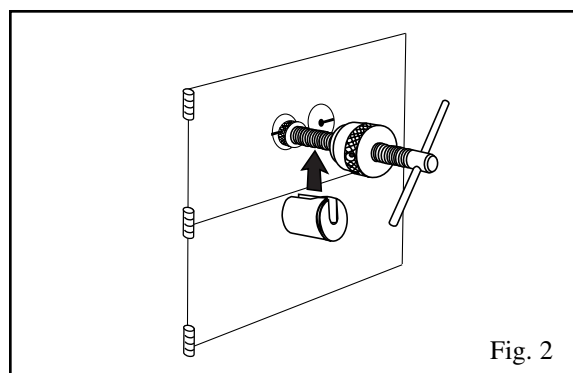

Fig. 2
2. Slip the spacer block into place and tighten by turning knurled knob. See Fig. 2.